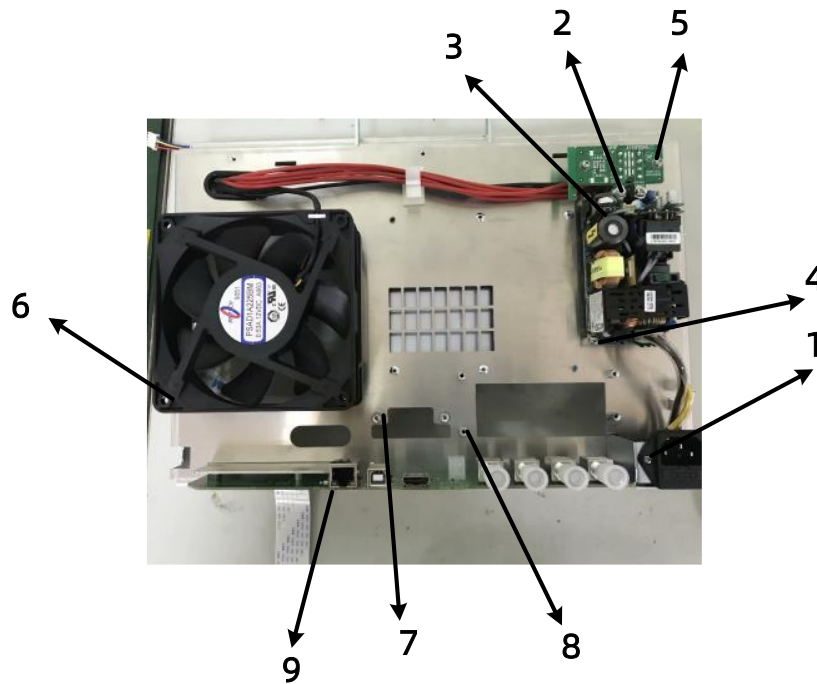

Figure 8-5 Rear panel assemblies removal
1. Refer to Figure 8-5 for this procedure.
3. With a T-10 TORX driver, remove the two screws (item ①) from the power outlet
3. With a T-10 TORX driver, remove the two screws (item ②) Between the Power filter board and the AC-DC power SUPPLY
4. Disconnect the cable(item ③)
5. With a T-10 TORX driver, remove the four screws (item ④) from the AC-DC power SUPPLY
1. Refer to Figure8-5 for this procedure.
2. With a T-10 TORX driver, remove the two screws (item ②) Between the Power filter board and the AC-DC power SUPPLY
3. Disconnect the cable(item ③)
4. With a T-10 TORX driver, remove the two screws (item ⑤) from the Power filter board
2. With a T-10 TORX driver, remove the four screws (item ⑥) from the fan
2. With a T-10 TORX driver, remove the two screws (item ⑦) from the OCXO Adapter panel
2. With a T-10 TORX driver, remove the four screws (item ⑧) from the bias panel
2. With a T-10 TORX driver, remove the four screws (item ⑨) from the IOB panel